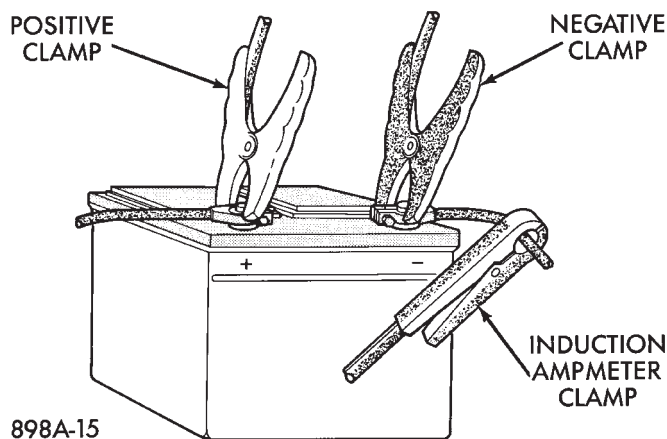

Fig. 3 Volt/Amp Tester Connections
- (8) Connect an engine tachometer and connect battery negative cable.
- (10) Connect a volt/amp tester equipped with a variable carbon pile rheostat between battery terminals (Fig. 3).